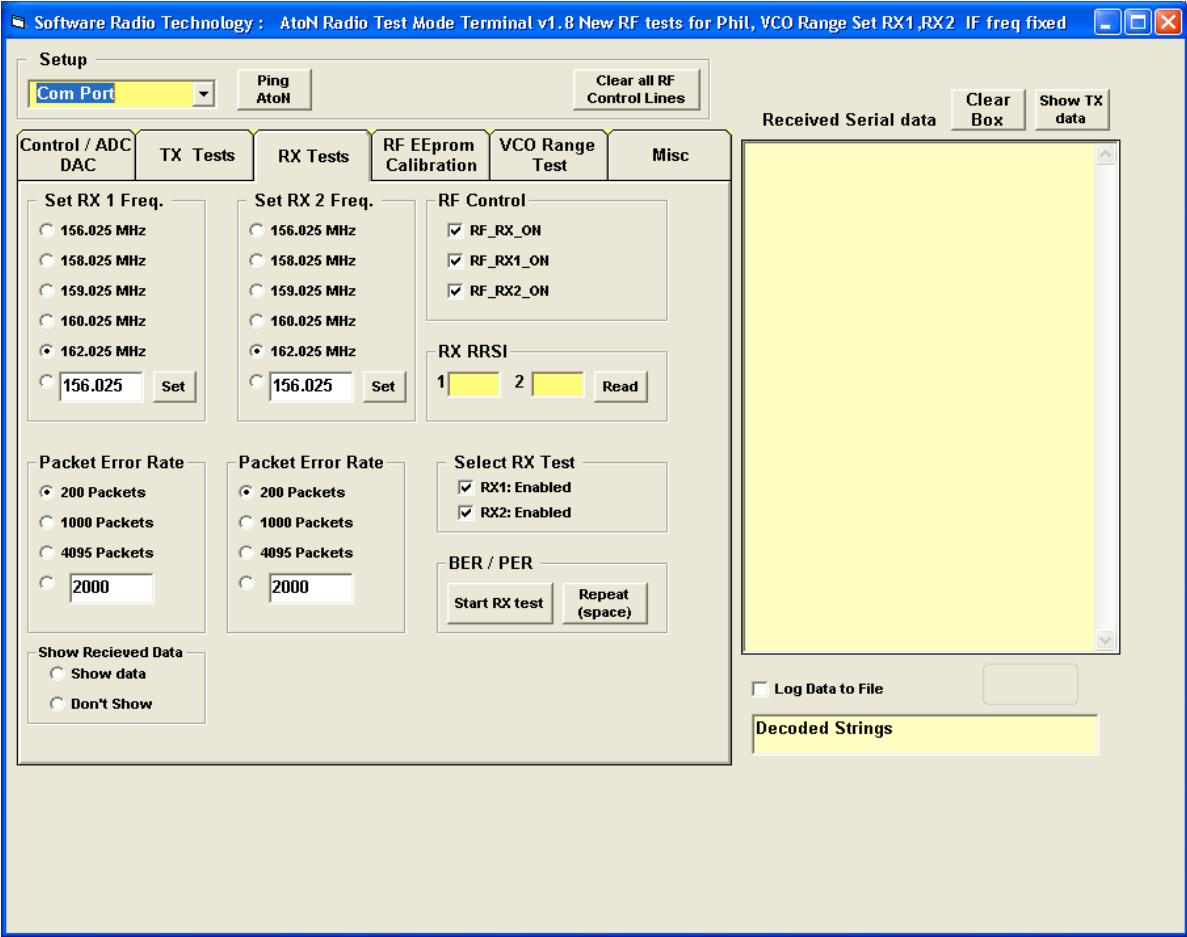

Figure 8A
2. Click on the “***RX Test***” tab and configure the “Radio Test Mode” program for AIS 2 (162.025 MHz.) by checking the appropriate fields. (See Figure 8A). Then select “**Start Rx Tests**”. After all configuration parameters are updated on the Radio Test Mode software screen, push the ENTER button on the PMG1 to send the 200 packets to the UUT. For the following tests.